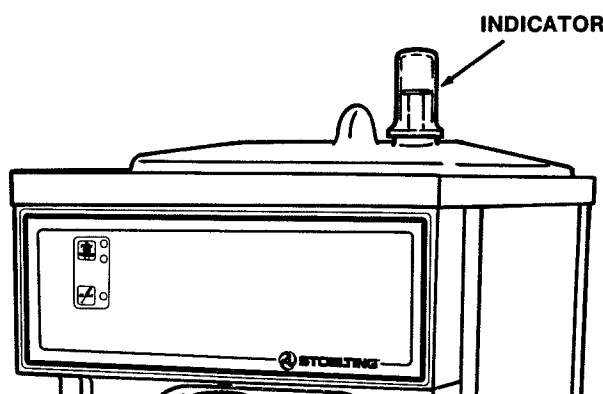
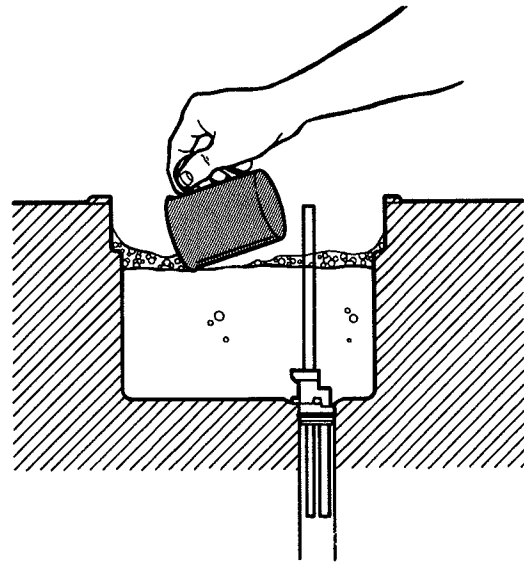

Figure 17. Liquid Level Indicator
Figure 18. Skimming Foam
- J. **Do Not** operate the freezer when the level indicator shows the hopper is empty (Fig. 17). With some types of mix, foam will occur in the hopper. If excess foam should occur, skim off the foam with a sanitized cup or ladle. (See Fig. 18).